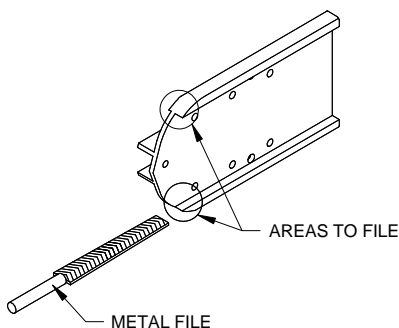

FIG. 2
- a. Using a metal file remove any burrs that may be on the end of the ramp rail as shown in Fig. 2; burrs can cause interference and not allow the apron to install smoothly.